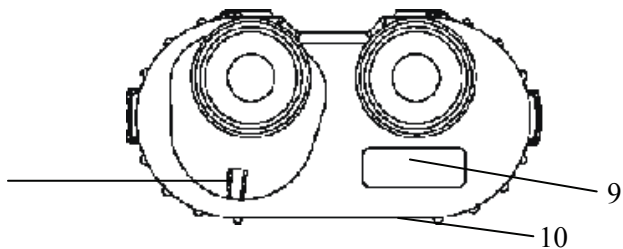

Fig. 2 Rear view
- Unscrew the screw and open the battery compartment cover (10, Fig.2)